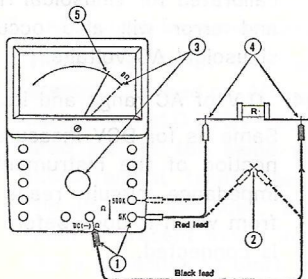

Fig. 6 -  $\Omega$  measurement.
When voltage is measured, the compound resistance at the point where the tester is connected decreases, and accuracy is affected as shown in Fig. 6 - (B). As a rule, a tester has its overall input impedance mentioned on the instrument by  $\Omega/V$ , it being 2k ohms per -volt for P - 2B. Accordingly, the input impedance of its 250V range is: